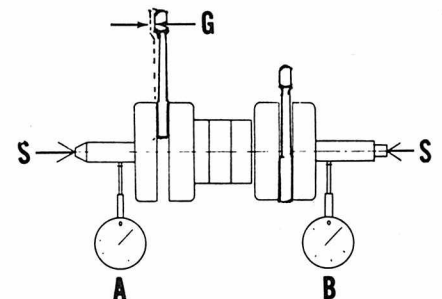

Fig. Y8-15—Refer to text for checking crankshaft for correct assembly or wear.
The crankcase halves must be separated to remove the crankshaft. Refer to Fig. Y8-21. Connecting rods, crankpins rod bearings and the center main bearings and seal are removed by pressing the crankshaft apart. The crankshaft should be disassembled **ONLY** if required tools are available to correctly check and align the reassembled crankshaft. If side shake (G—Fig. Y8-15) at piston pin end of connecting rod exceeds 0.08 inch (2MM), the connecting rod, crankpin and lower bearing should be renewed. Shake (G) should be 0.032-0.039 inch (0.8-1.0MM). Side clearance of connecting rod between the crankshaft counter weights can be measured with a feeler gage. Side clearance should be 0.0039-0.012 inch (0.1-0.3MM). With crankshaft supported between lathe centers (S—Fig. Y8-15), maximum eccentricity when measured with a dial indicator at points (A & B) should not exceed 0.0006 inch (0.015MM).